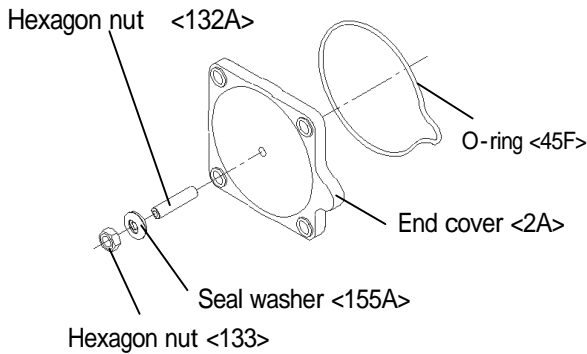
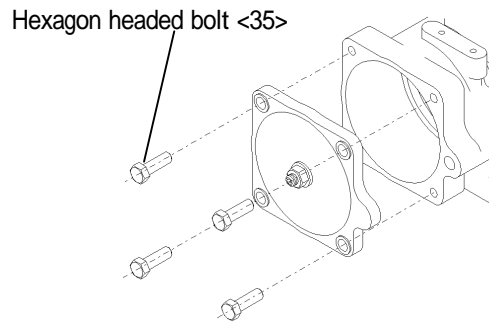

Fig.16
Fig.17
- (8) Mount a stopper bolt, a seal washer and a hexagon nut on an end cover. Lubricate an O-ring and assemble it with the end cover (Fig.16). Mount the end cover on the housing opening with hexagon headed bolts (Fig.17). For reassembly of Type FAS spring return actuators, the spring cartridge must be mounted on the housing opening , instead of the end cover .